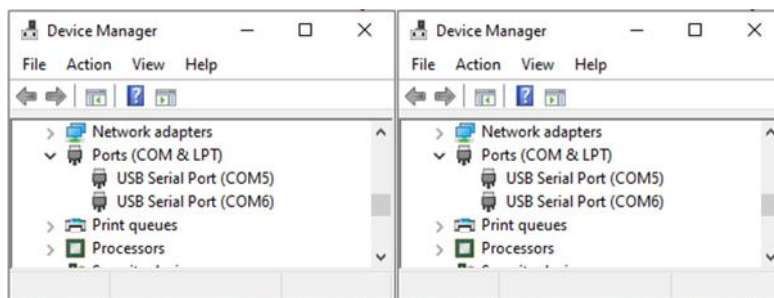

Figure 3: Windows – COM Ports
- For Windows, the two COM ports are displayed in the Device Manager (see Figure 3)
The lower numbered COM port (COM5 in Figure 3) is for the DA16200/DA16600 debug interface. The higher numbered COM port is for the DA16200/DA16600 AT command interface.